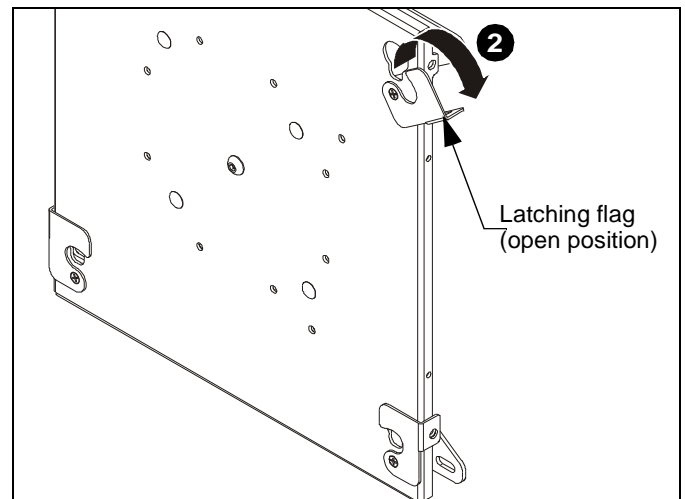

Figure 2
2. Open latching flag at each corner of the MSP-JELPSW3 mount to the "Open" position. (See Figure 2)